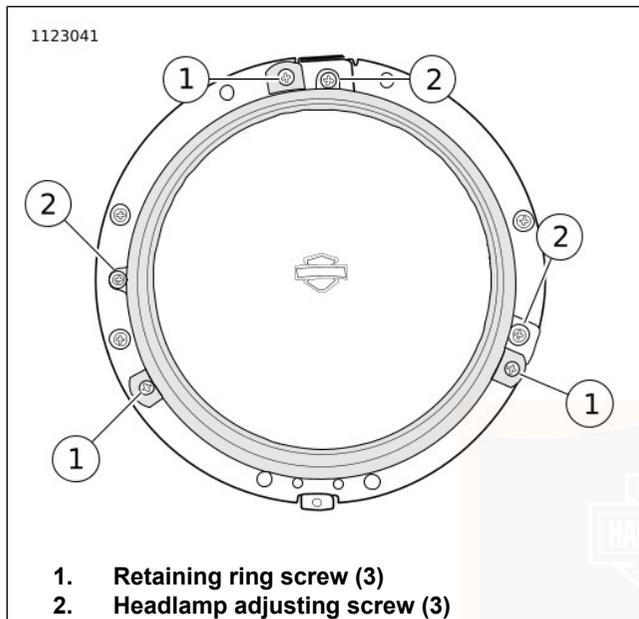

Figure 97. Headlamp Retaining Ring
3. See Figure 97. Remove screws (1) securing retaining ring.
2. See Figure 97. Secure headlamp assembly with retaining ring and screws (1). Tighten.